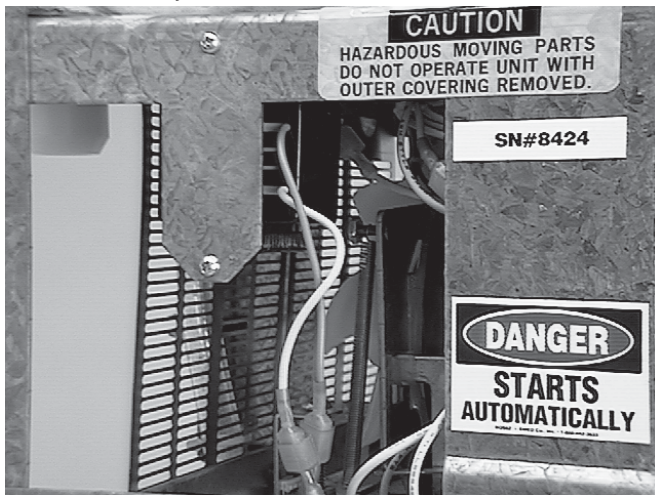

Figure 34. Transformer
2. Remove the two retaining screws from the transformer. Figure 34.